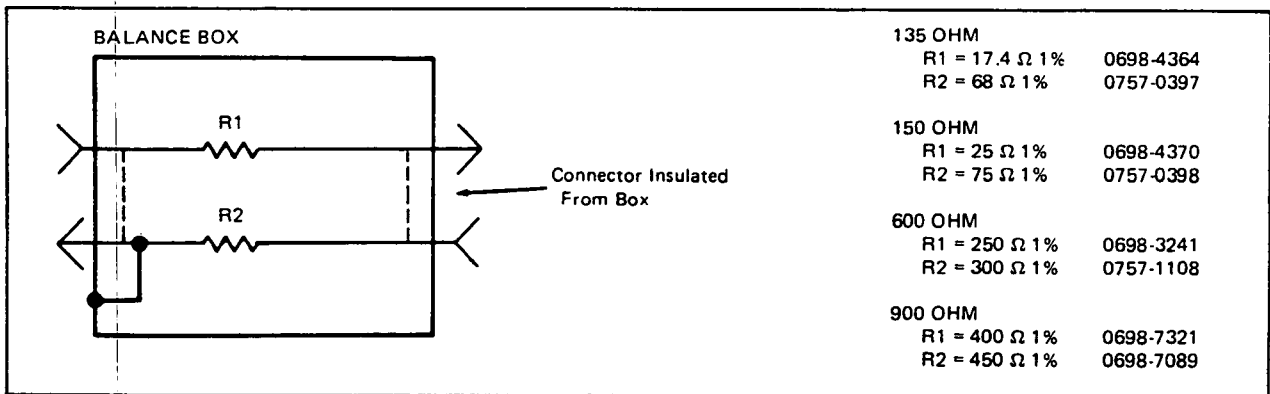

Figure 1-2. Impedance Box.
2. Connect a 3320B Synthesizer to the 3551A/3552A through the 900 ohm impedance box (see Figure 1-2).